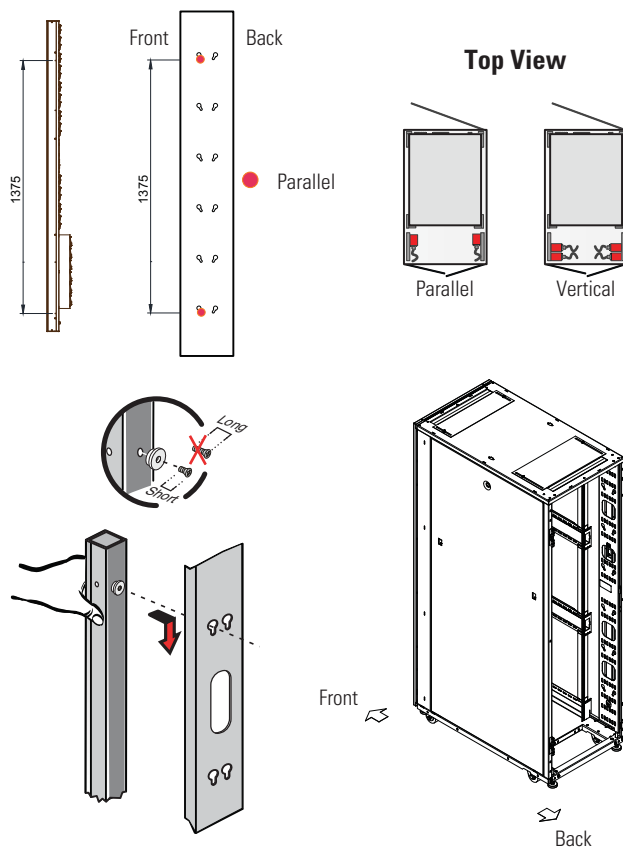

Figure 16. Lenovo Rack 9363 Mounting Button Installation
2. Position and install the buttons as shown in Figure 16.